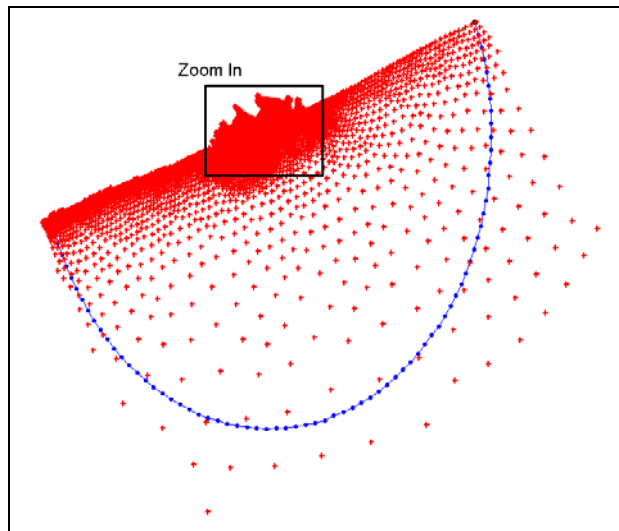

Figure 17-3 Inlet location to zoom in on.
1. Still in the *Scatterpoint*  module, zoom in to the area of the inlet as shown in Figure 17-3 using the *Zoom*  tool in the *Toolbox*.